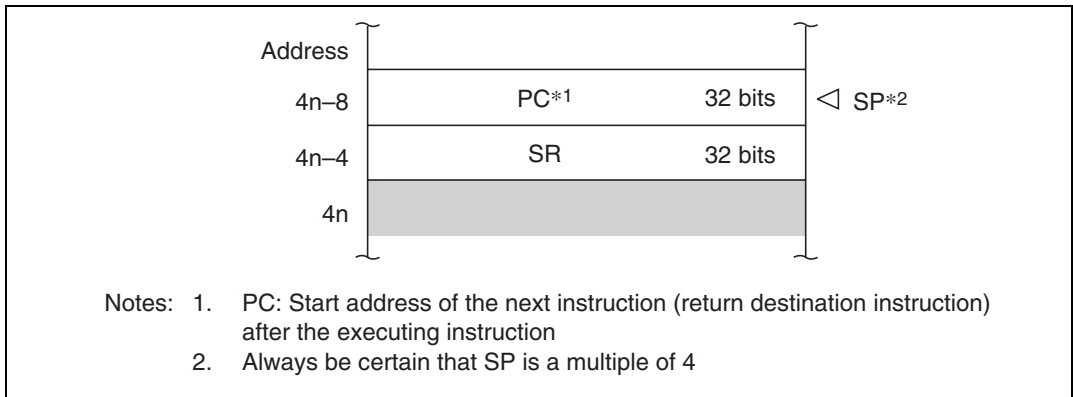

Figure 6.4 Stack after Interrupt Exception Processing
3. The interrupt controller compares the priority level of the selected interrupt request with the interrupt mask bits (I3 to I0) in the CPU's status register (SR). If the request priority level is equal to or less than the level set in I3 to I0, the request is ignored. If the request priority level is higher than the level in bits I3 to I0, the interrupt controller accepts the interrupt and sends an interrupt request signal to the CPU.
4. The CPU detects the interrupt request sent from the interrupt controller when it decodes the next instruction to be executed. Instead of executing the decoded instruction, the CPU starts interrupt exception processing (figure 6.4).
6. The priority level of the accepted interrupt is copied to the interrupt mask level bits (I3 to I0) in the status register (SR).
Figure 6.4 shows the stack after interrupt exception processing.